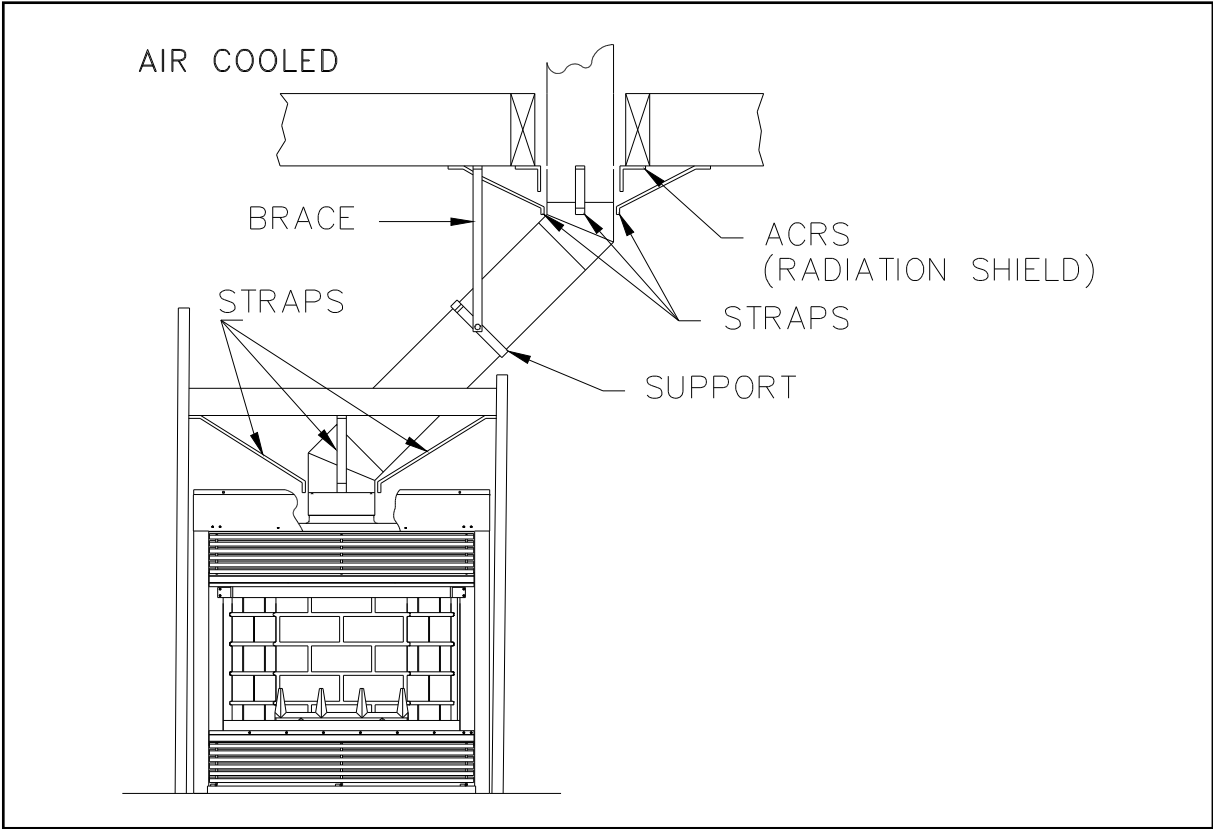

Figure 17
1. Install the first elbow. Turn it in the required direction. To lock it in place, turn 1/8 of a turn. Fasten the straps attached to the elbow to the surrounding framing using nails or drywall screws (Figure 17).